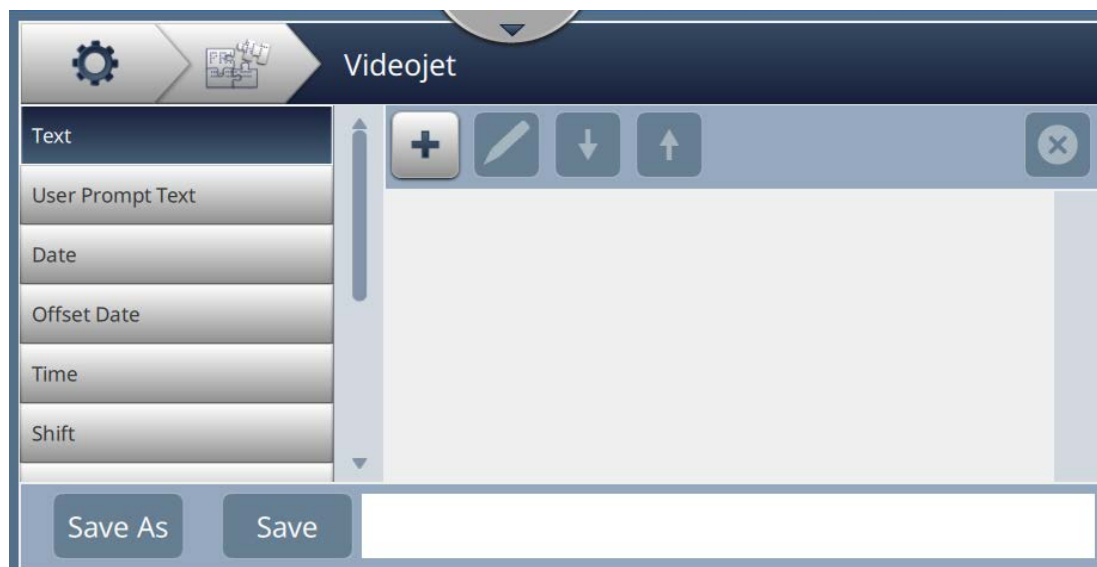

Figure 6-8: Custom Reference Editor
4. The Custom Reference Editor screen opens as shown in the Figure 6-8.
4. The Custom Reference Editor screen opens as shown in the Figure 6-8 on page 6-13.